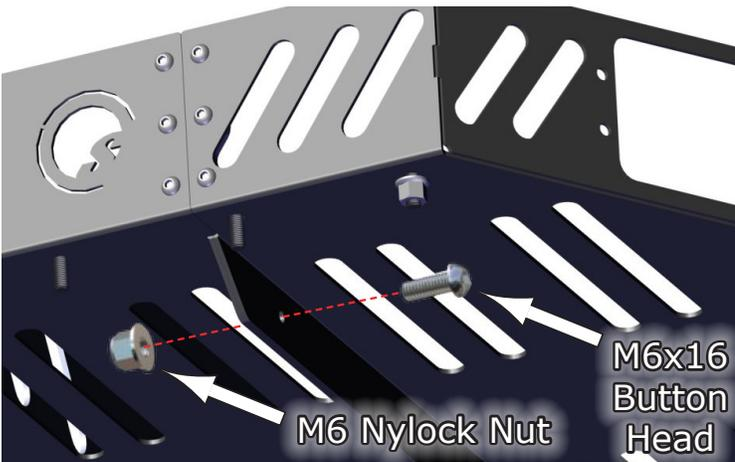

Fig.18a
18. After the **Side Joints** are installed, you can now secure the panels on the underneath side all the way across the seam. Do this also using the **M6x16 Button Head** and **M6 Nylock Nuts** provided in your kit. See **Fig.18a-b**.